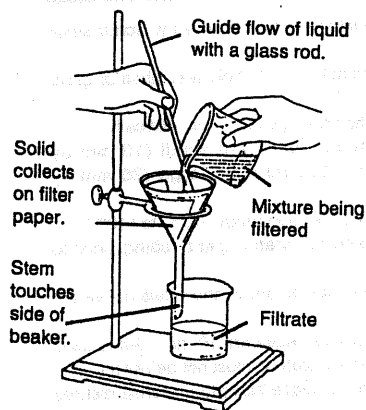

Figure 3. Filtration assembly
3. Place a beaker beneath the funnel to collect the filtrate. The tip of the funnel should touch the inside surface of the beaker and extend about 3 cm below the rim (Figure 3).